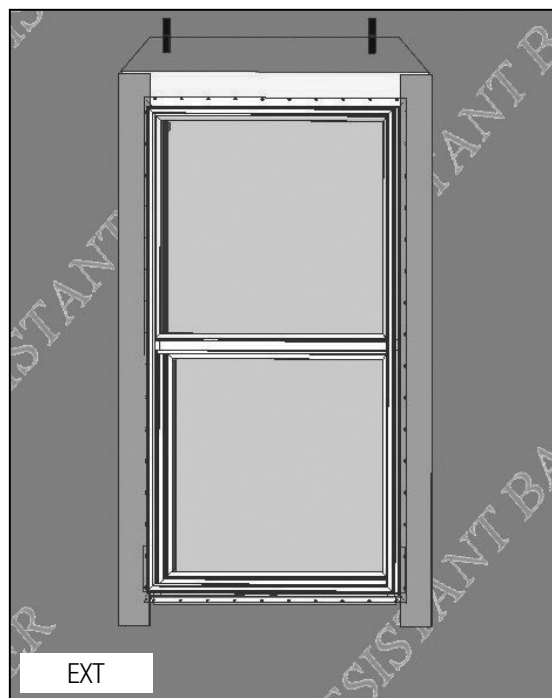

FIG. 15
- A) Cut and apply side flashing. Side flashing should run from the bottom of the sill flashing to 8" above the rough opening. (Fig. 15)